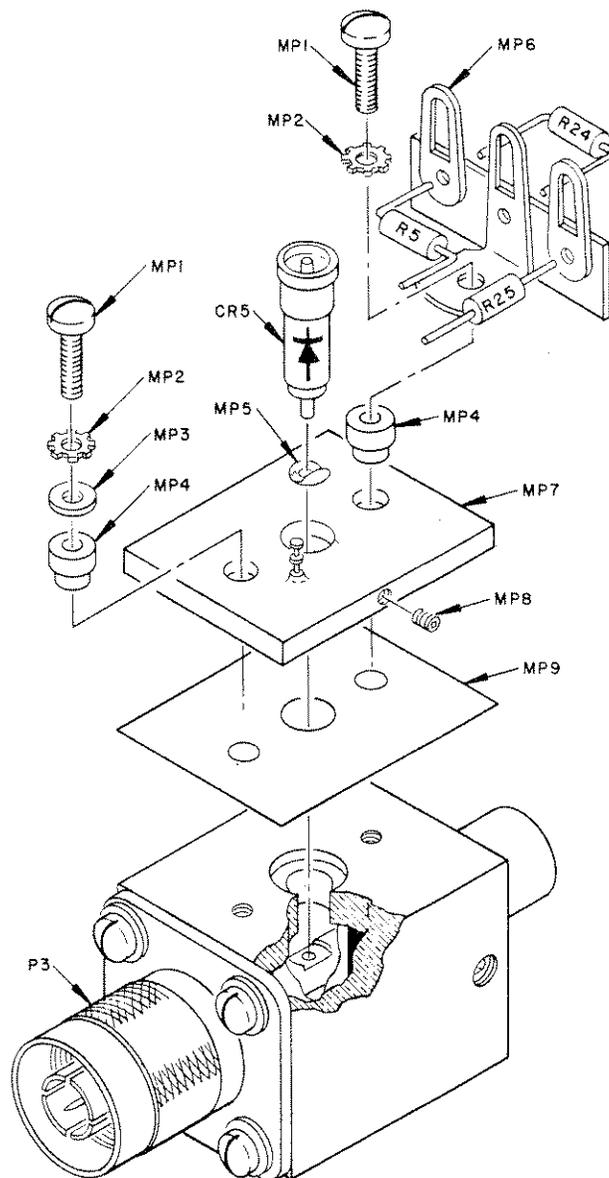

Figure 5-3. RF Detector Diode Assembly
**5-13. RF Detector Diode (Fig. 5-3)**